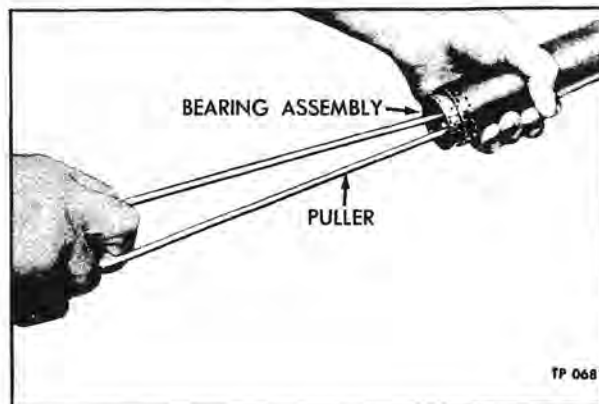

Figure 6—Removing Steering Shaft Upper Bearing
7. If not previously removed in step 7 above, remove steering shaft upper bearing from tube (1), using puller (J-489) (fig. 6).